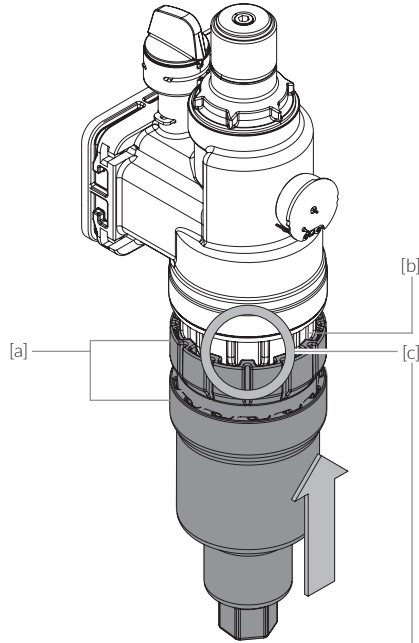
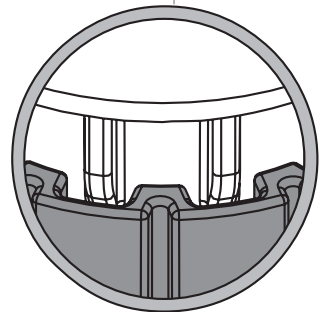

Fig. 9.14
Fig. 9.15
- / Fig. 9.14 / Fig. 9.15: Put the CONEL maintenance nut filter cap DN20-32 [a] over the filter cap [b] so that the rib contours of both elements engage with each other [c]